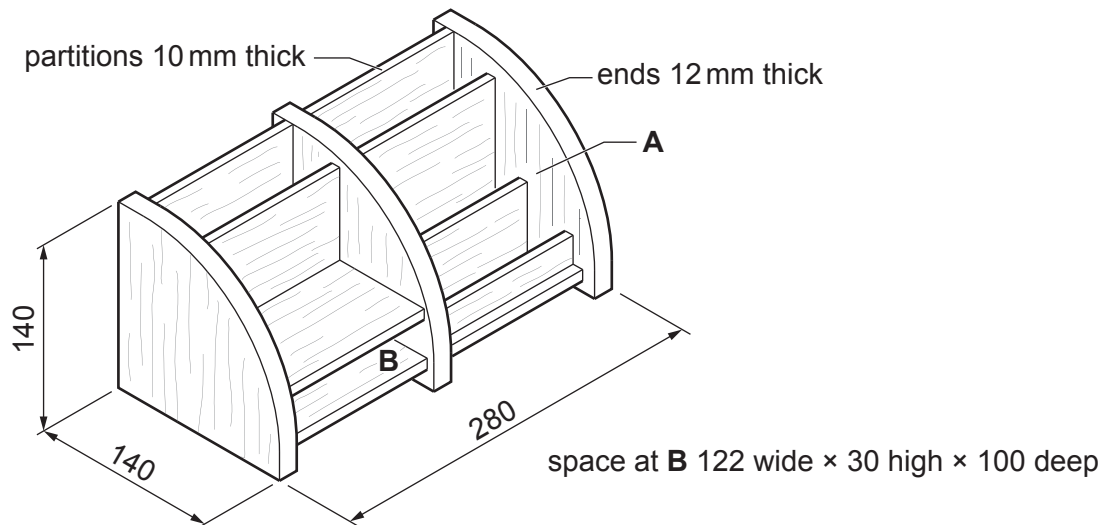
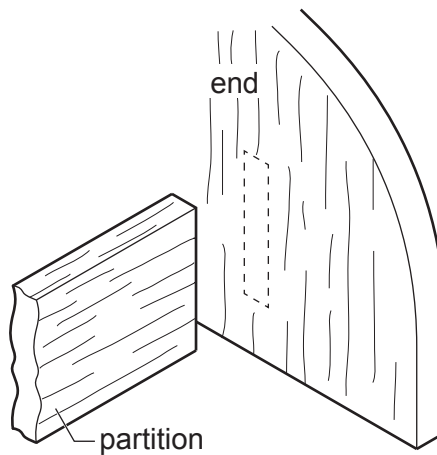

Fig. 13.1
Fig. 13.5
13 Fig. 13.1 shows a desk organiser made from hardwood.
- (e) Fig. 13.5 shows the partition and one end piece that will be joined at **A** shown in Fig. 13.1.
- (f) Use sketches and notes to show a design for a drawer that could fit in the space **B** shown in Fig. 13.1.